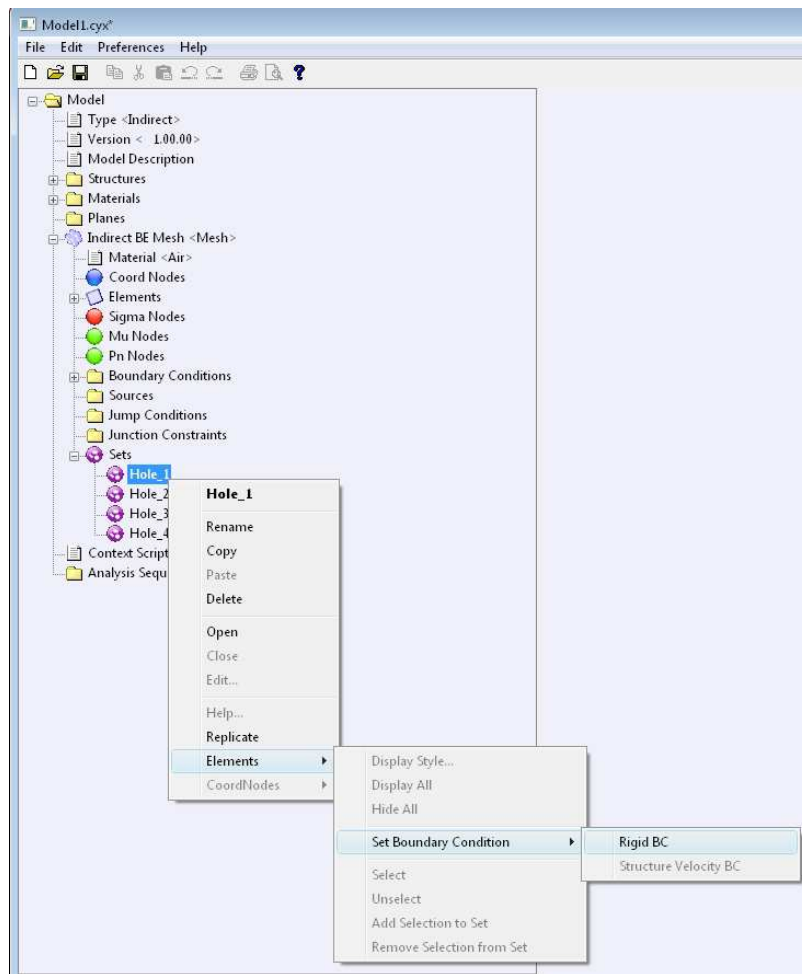

Figure 19: Apply boundary conditions through sets.
- Right-click on **Holes\_1** and select: **Elements** > **Set Boundary Condition** > **Rigid BC** as shown in Figure 19.